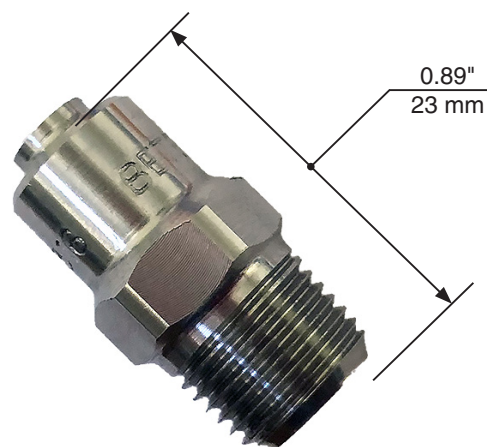

Figure 8a: Spray nozzle.
- The Q-SUN Xe-1-SE and Xe-1-SCE have two spray nozzles (Figure 8a).
- The wedge-shaped base tilts the Xe-1 tester so that the specimen tray is horizontal (Figure 8a).